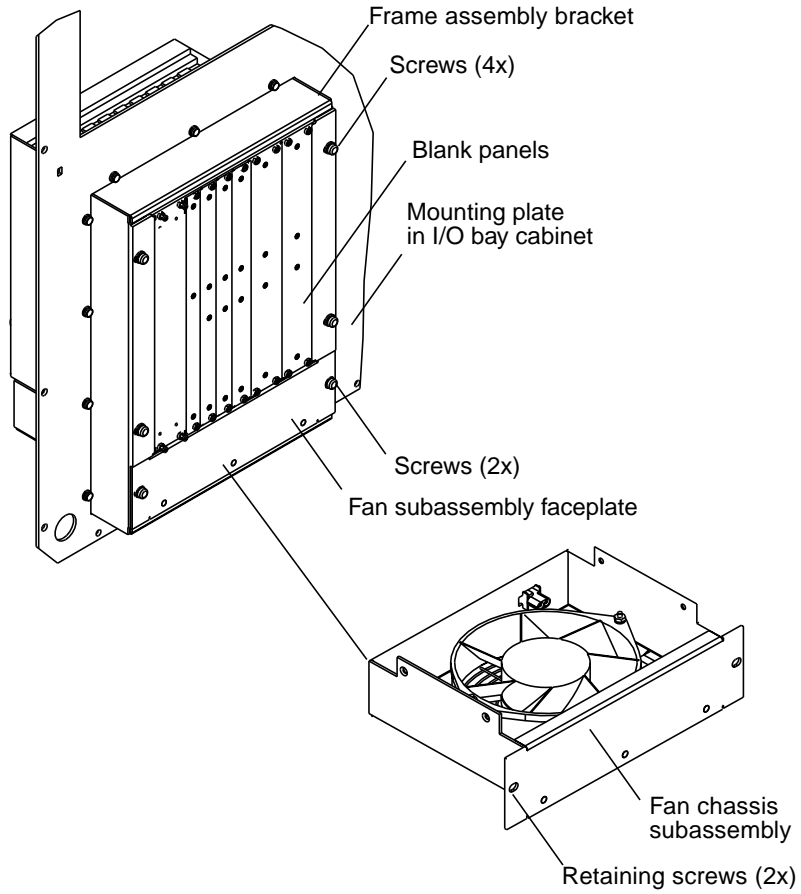

FIGURE 5-2 6U Card Cage and Fan Installation
2. Insert the rear of the card cage through the opening. Align the frame assembly bracket with the screw holes on the mounting plate. See FIGURE 5-2.
1. See FIGURE 5-2. Remove the fan assembly face plate from the 6U card cage by removing the face plate retaining screws.